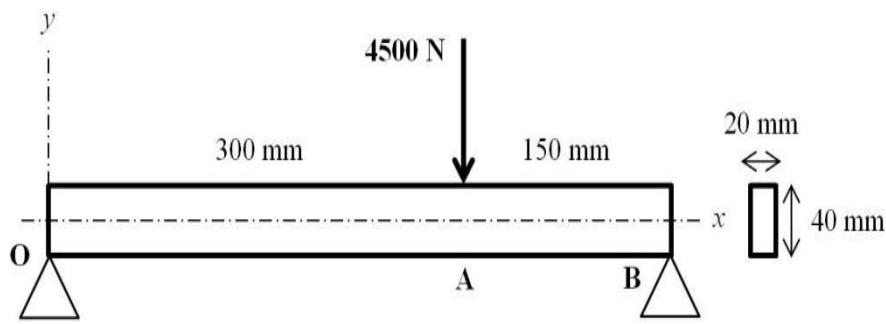

Figure 1/ Rajah 1
- b. **Figure 1** shows a beam supported at point O and B with a force acting at point A.